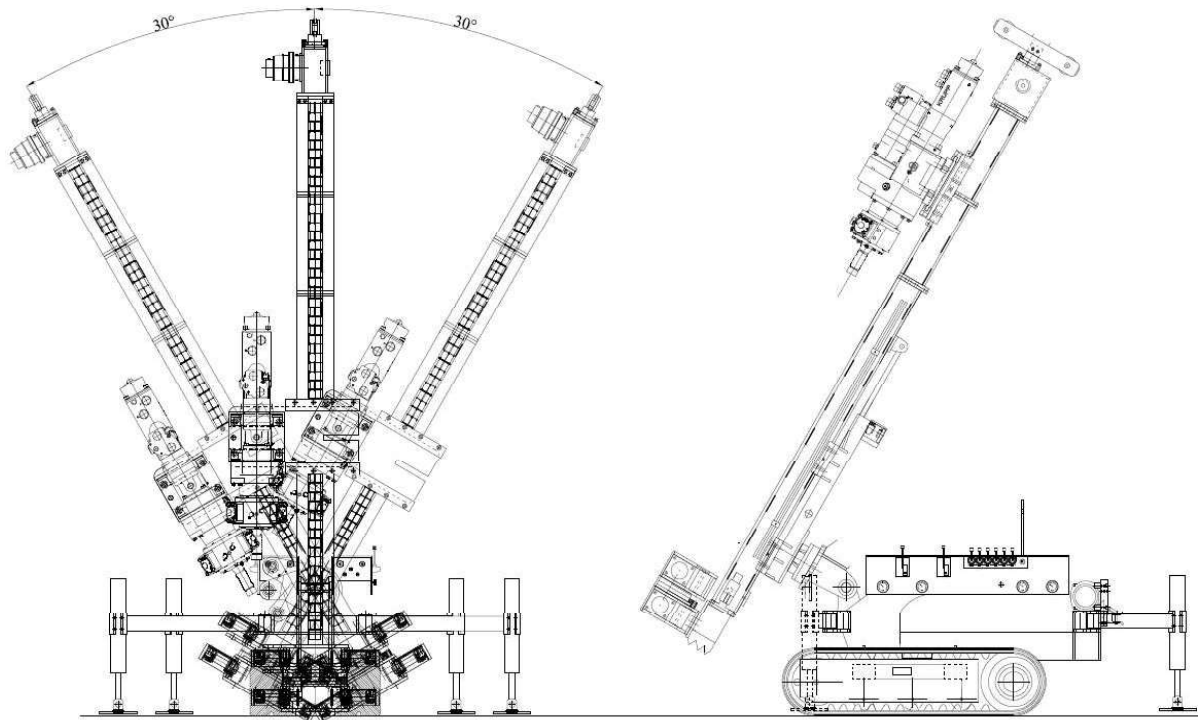

Figure 4.1: Work position
- Work conditions, in the drilling phase, should be on compact ground. For greater stability deploy the hydraulic stabilisers in such a way as to make the drilling rig as stable as possible. (Fig. 4.1).